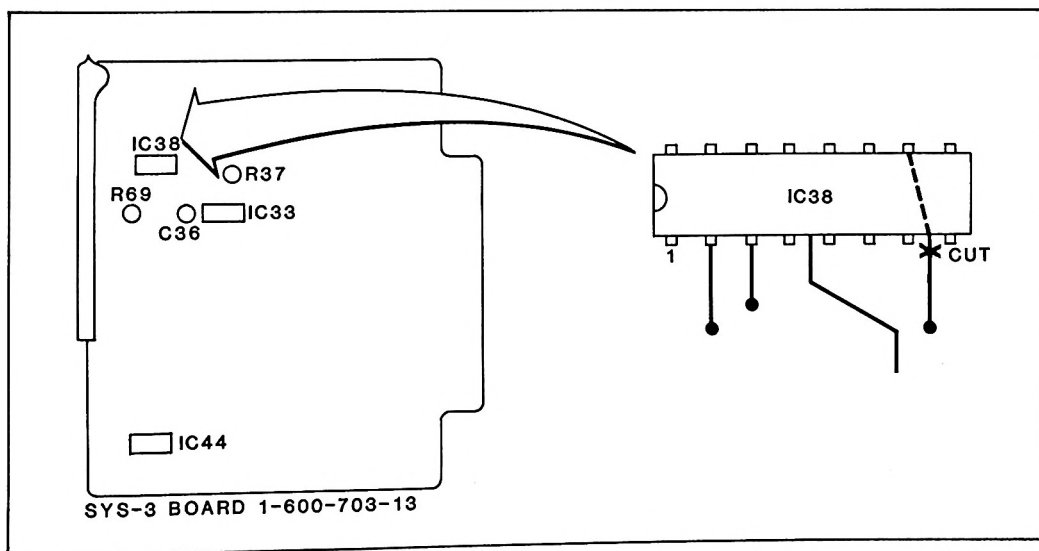

Figure 5
1. Install 74LS14N in spare slot and designate as IC44. (See Figure 5.) Connect pin 7 to ground and pin 14 to Vcc.
2. Cut trace at IC38-10. (Make cut on component side, between pins 7 and 8 as shown in Figure 5.)
8. With board extended, power up equipment and adjust R69 (Figure 5) to eliminate tape slack around scanner when switching from JOG REV to PLAY.